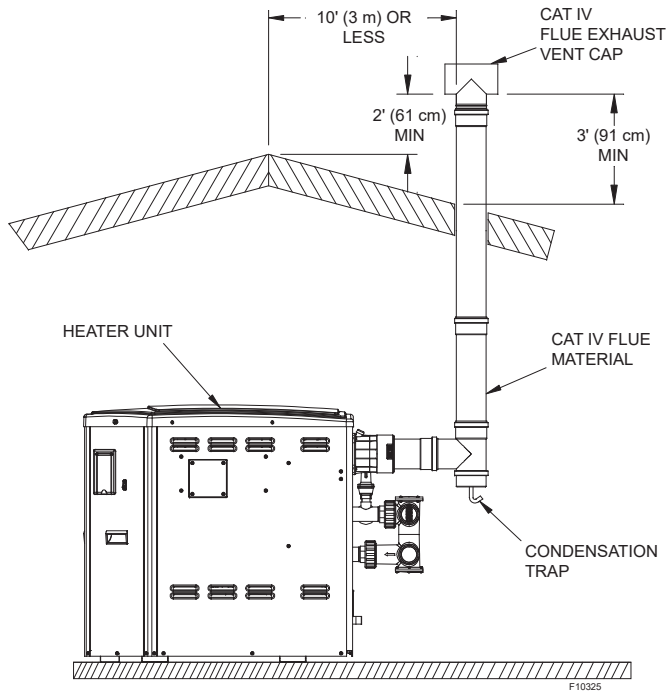

Figure 6. Vertical Venting
**CAUTION:** In general, the condensate piping from the appliance must have a downward slope of 1/4" per horizontal foot. Condensate drain traps must be primed with water to prevent gas flue leaks. Treatment kits should be checked at least once per year to ensure that the pH of the effluent remains 5.0 or higher, and the chips should be replenished as necessary. When replacing the chips, they should be no smaller than 3/4" to avoid blockage in the condensate piping. Figure 6 on page 15 is a visual guide only. Follow the manufacturer's instructions for the installation of the treatment kit and condensate drains.